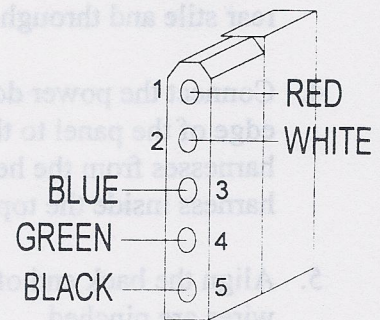

Figure 18
8. Pull the control panel wiring harness through the switch cutout in the stile. Install the loose connector (See Figure 18). Connect the switch panel and reinstall with the screws retained earlier.